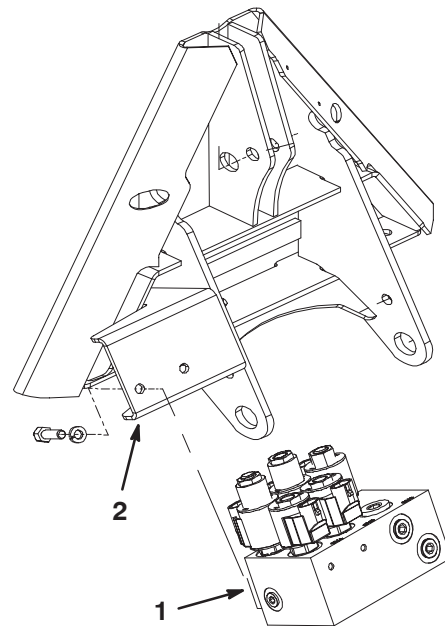

Figure 6
8. Mount the hydraulic manifold to the back of the lift adapter with 2 screws (5/16 x 3/4 inch) and lockwashers (5/16) (Fig. 6).